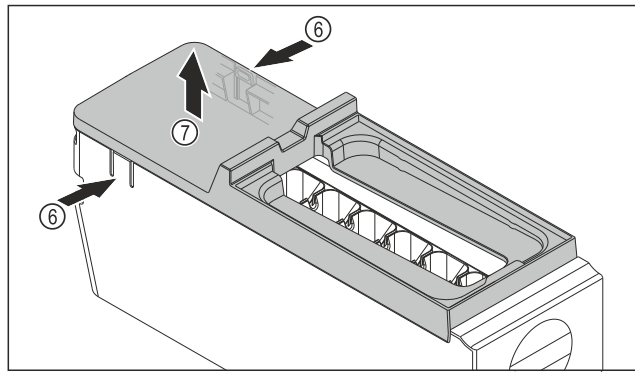

Fig. 172
- ▶ Removing the EasyTwist-Ice body cover: Push the tabs Fig. 172 (6) on both sides of the EasyTwist-Ice body with one hand.
- ▶ Use the other hand to remove the cover Fig. 172 (7) upwards.